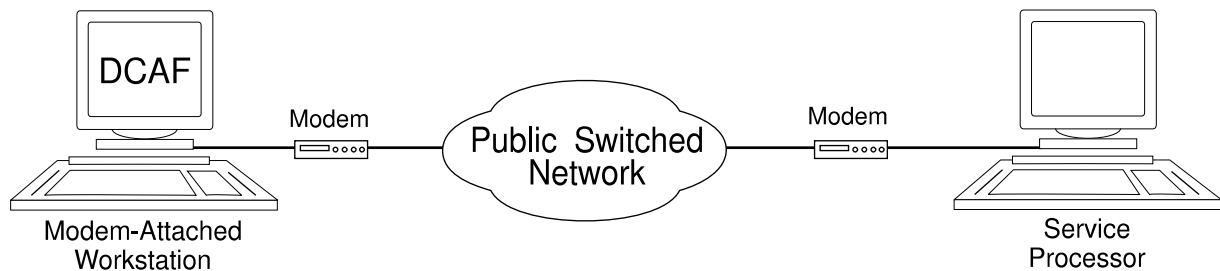

Figure 13-1. Modem-Attached Configuration
- Configure a DCAF session for controlling the service processor (see Figure 13-1).